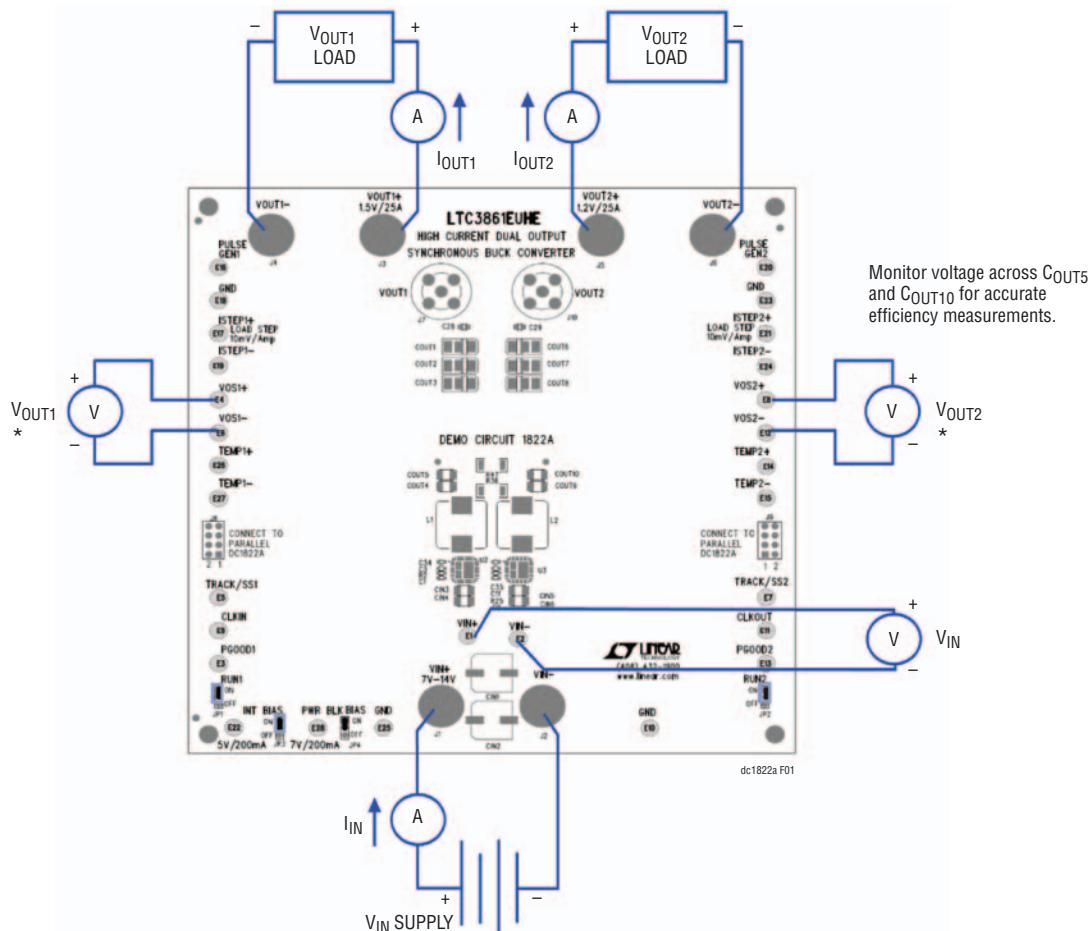

Figure 1. Proper Measurement Equipment Setup
Demonstration circuit 1822A is easy to set up to evaluate the performance of the LTC3861EUHE. Please refer to Figure 1 for proper measurement equipment setup and follow the procedure below.
1. With power off, connect the input supply, load and meters, as shown in Figure 1. Preset the load to 0A and V_{IN} supply to be 0V. Place jumpers in the following positions: